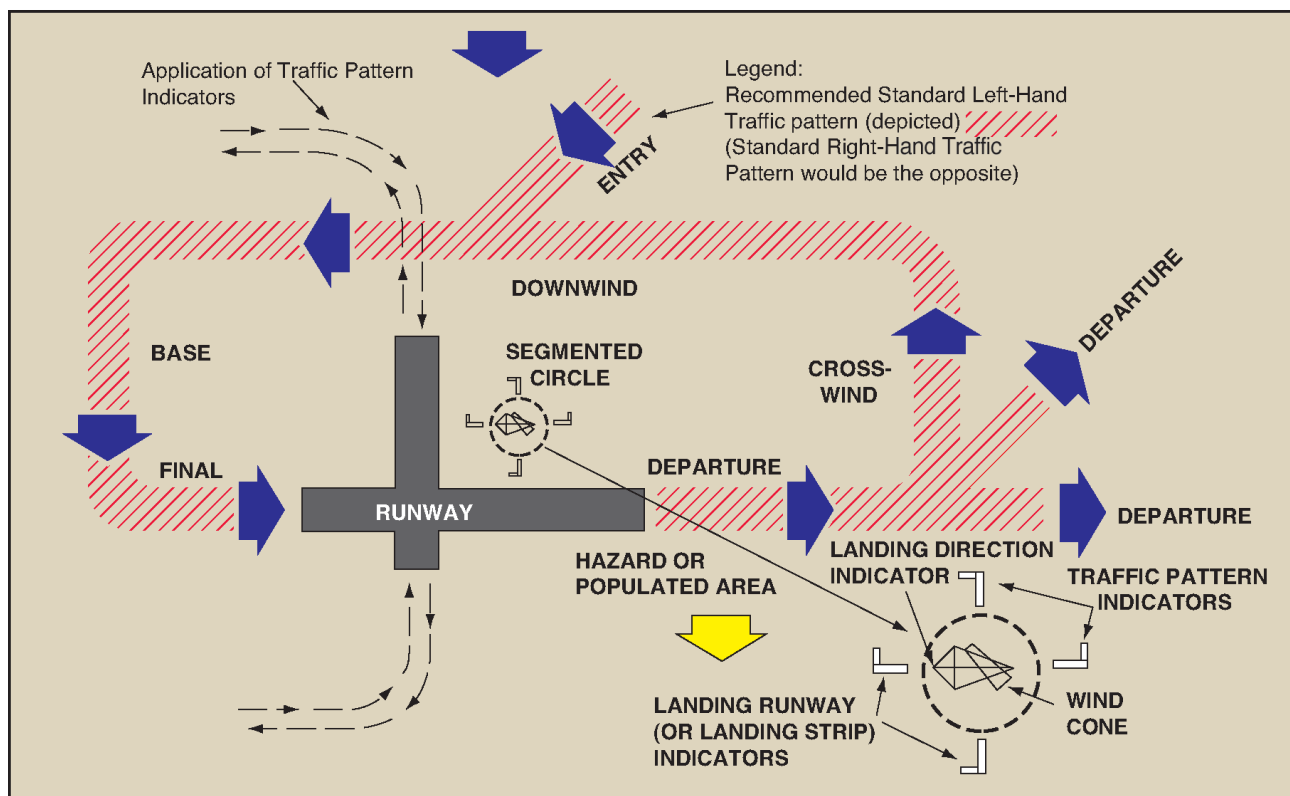

Figure 10-1. Traffic patterns.
The established powered parachute traffic pattern for an airport might be similar to the standard traffic pattern or it might use turns in the opposite direction. [Figure 10-1] In both cases, use a standard rectangular pattern with a pattern altitude one-half the airplane traffic pattern altitude or as published (if published). An airport may also use a smaller pattern, referred to as a “tight pattern” or “inside pattern,” and it might be in the same direction as the other traffic or opposite. This smaller pattern combined with a pattern altitude of one-half the airport traffic pattern helps ensure sep-
The standard general aviation (GA) rectangular traffic pattern is illustrated in Figure 10-1. Traffic pattern altitude can vary by airport and should be checked in the Airport/Facility Directory. The GA pattern altitude is typically 800 – 1,000 feet. The PPC should NOT be flown at the GA pattern altitude. In an effort to avoid airplanes, the PPC pattern altitude should be one-half the GA pattern altitude. Even after the airplane has slowed to traffic pattern speed, it is still 2 to 3 times the PPC speed.